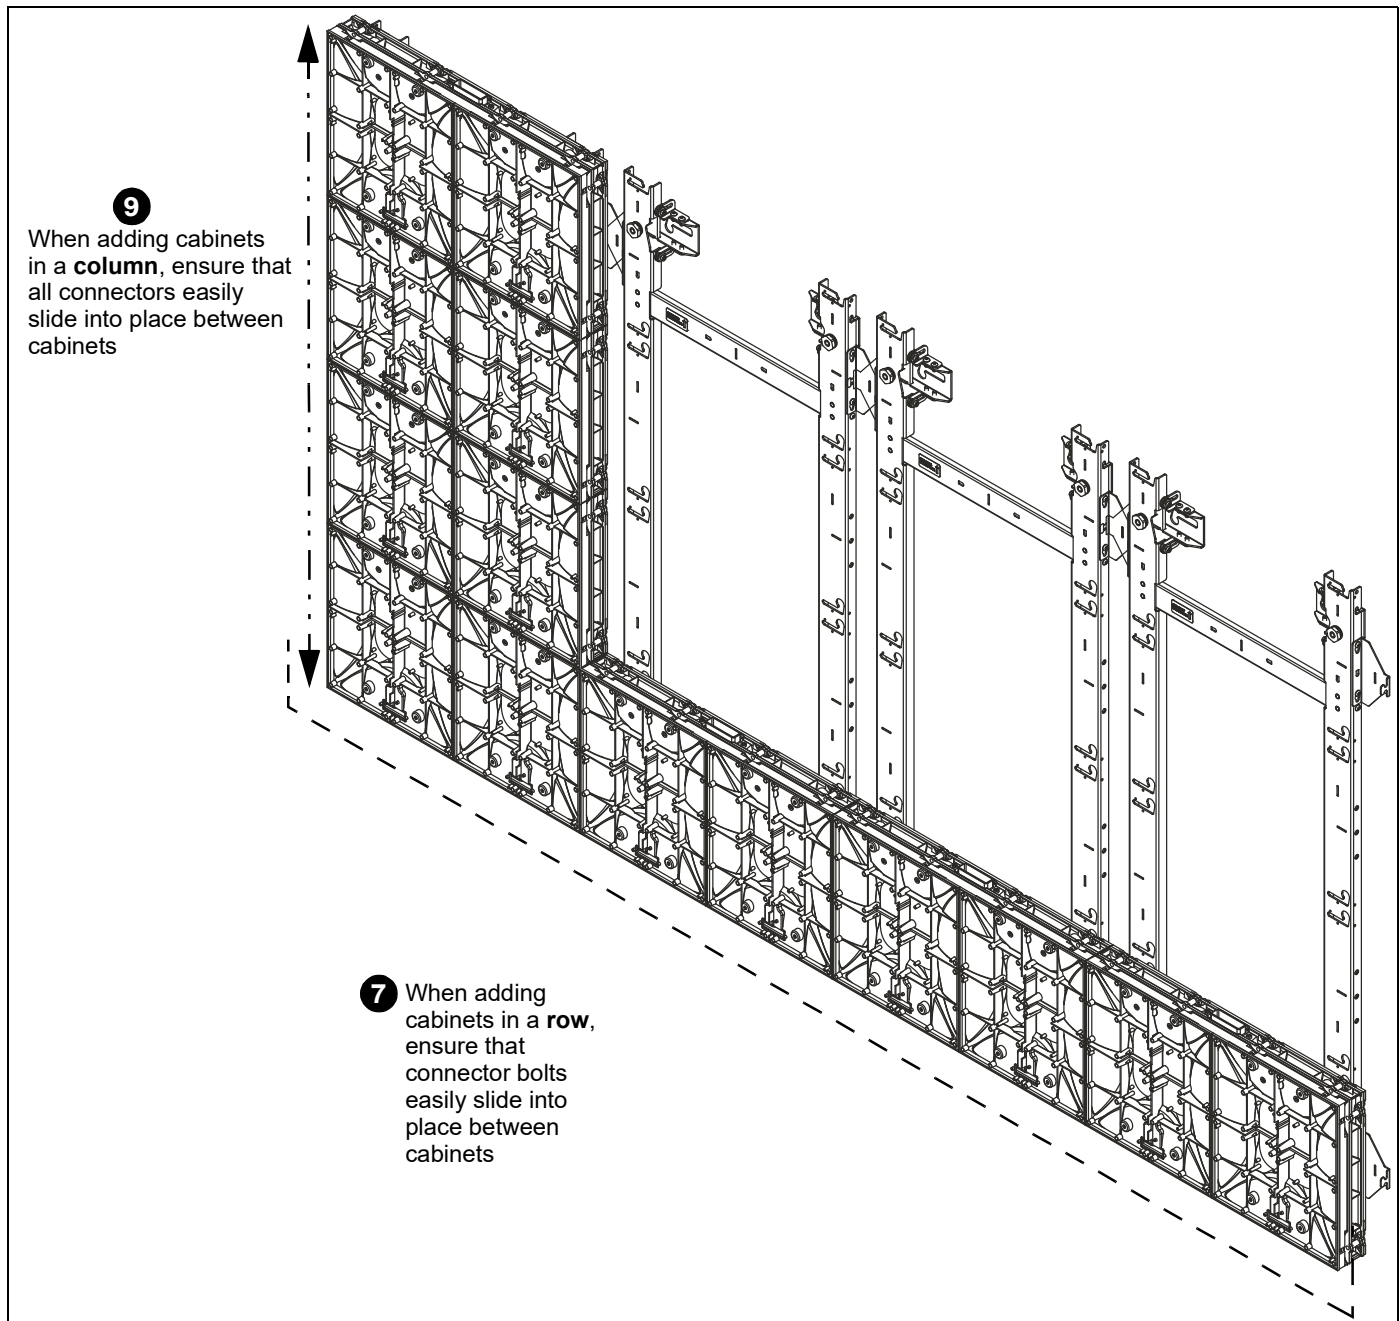

Figure 20
7. When installing a row of cabinets, slide some of them into place and connect them to make sure the cabinets are aligned. (See Figure 20)
8. After the bottom row of cabinets are installed, it is a good idea to install the far left column of cabinets to check that everything is square and straight. (See Figure 20)
9. When installing a column of cabinets to check alignment, it is a good idea to ensure that the connectors all slide into place easily. (See Figure 20)